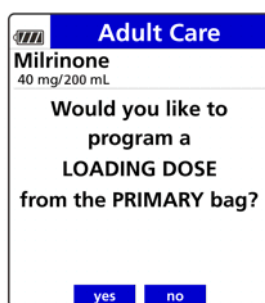

Figure 61. Loading Dose Prompt Screen.
1. If the drug has been configured in the Drug Library to allow a loading dose, a prompt is displayed after the drug has been selected. See Figure 61.